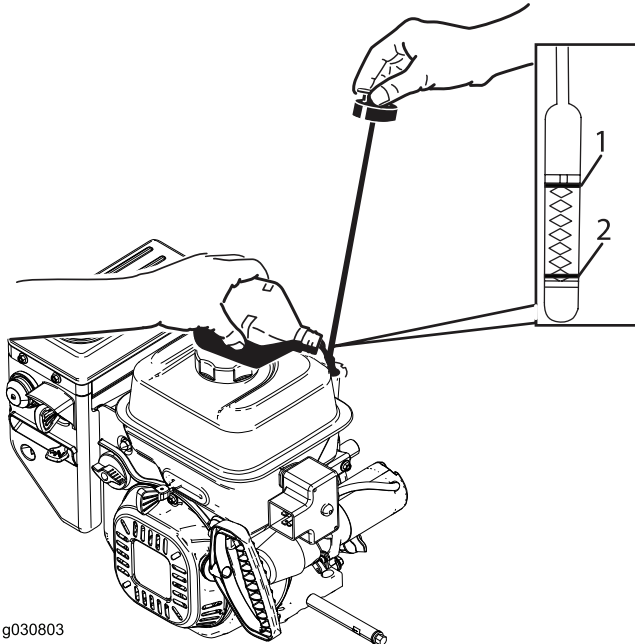

Figure 34
2. Remove the dipstick and check the oil level (Figure 34). If the oil level is below the Add mark on the dipstick, add oil. Refer to Changing the Engine Oil \(page 20\).